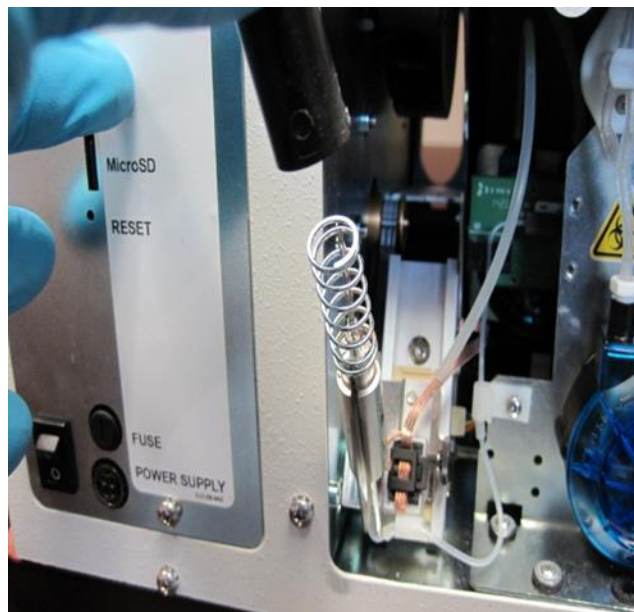

Figure 6
6. After removing the Thumb Screw, the Probe Tube assembly and the Needle Spring can be removed from the Needle Tip. (Figure 6)